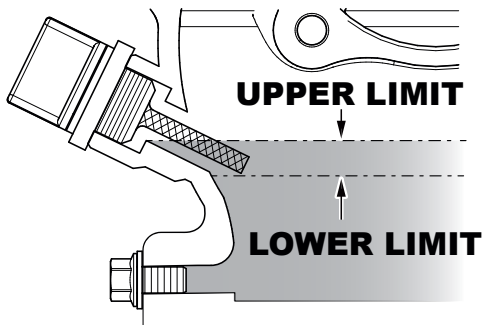

Figure 7. Oil Level
4. If the oil level is low (Figure 7), fill to the edge of the oil filler hole with the recommended oil type (Table 4). Maximum oil capacity is 9.5 ounces (280 CC).